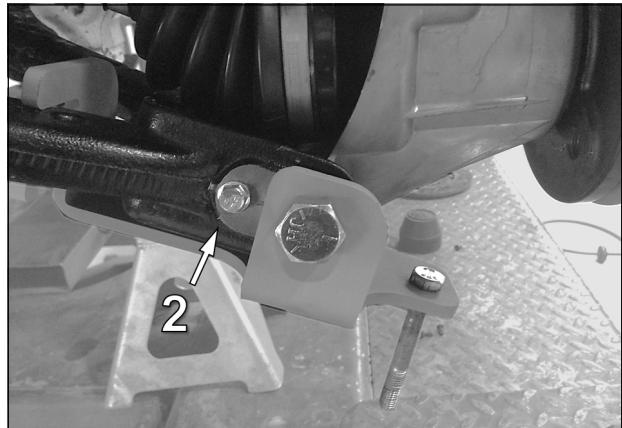

Fig. 9
8. Reinstall previously removed bolt (2) to keep dirt out of threaded hole. See Fig. 9